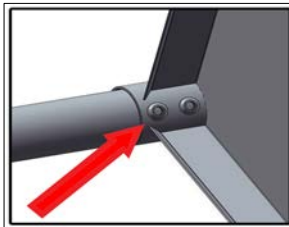

Fig 2
3. Use set screws to loosely attach the under shelf to the legs, approx. 7 inches from floor. [ Fig.2 ]